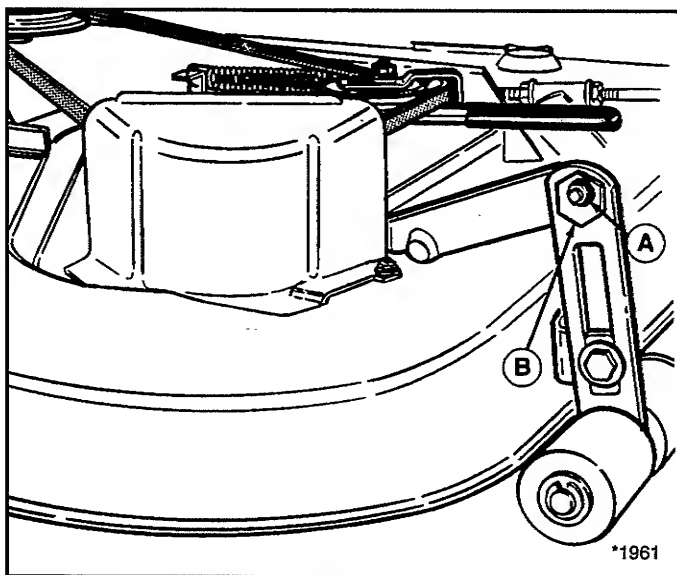
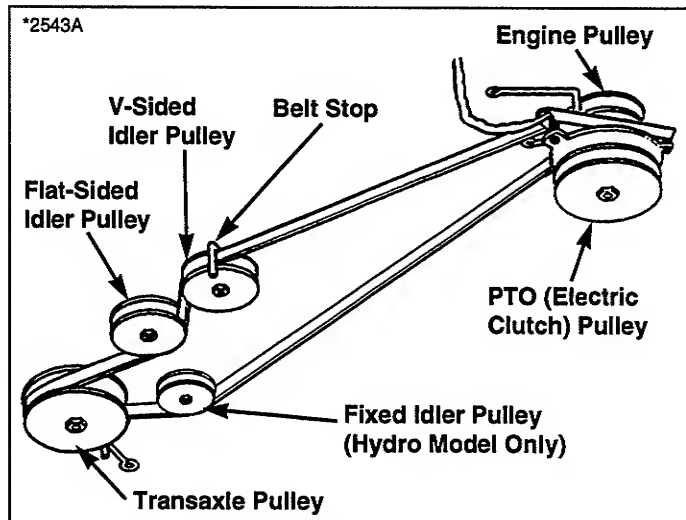

Figure 32. Leveling The Mower Side-to-Side
Figure 36. Tractor Drive Belt Routing
5. See figure 32. Loosen the outside nut (A). Turn the eccentric nut (B) to raise or lower left-hand side of mower. When mower is level, hold the eccentric nut while tightening the outside nut.
7. See figure 36. Slip belt from transaxle pulley and fixed idler pulley (hydro models). Remove belt.
9. Install new belt to idler pulleys as shown in figure 36.
10. Install new belt to the idler pulleys as shown in figure 36. Make sure belt is properly routed on flat and V sides. Tighten capscrews (A, figure 32) securing pulleys. Adjust belt stops for 1/8" clearance from pulleys.
12. See figure 36. Check belt routing around engine pulley, idler pulleys, and transaxle pulley. Check that the electric clutch, drag link and idler pulley spring are all correctly installed.